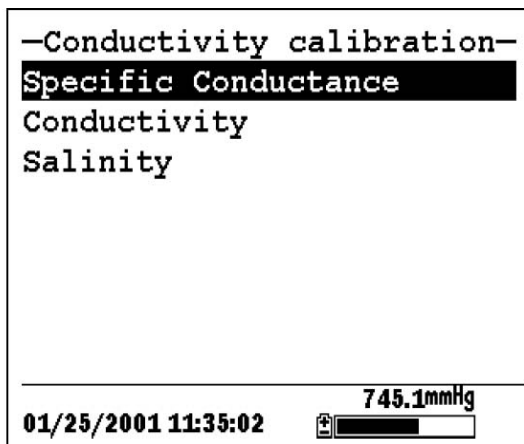

Figure 6.3 Conductivity Calibration Selection Screen
14. Press **Enter**. This returns you to the Conductivity Calibrate Selection Screen, See Figure 6.3 Conductivity Calibration Selection Screen..